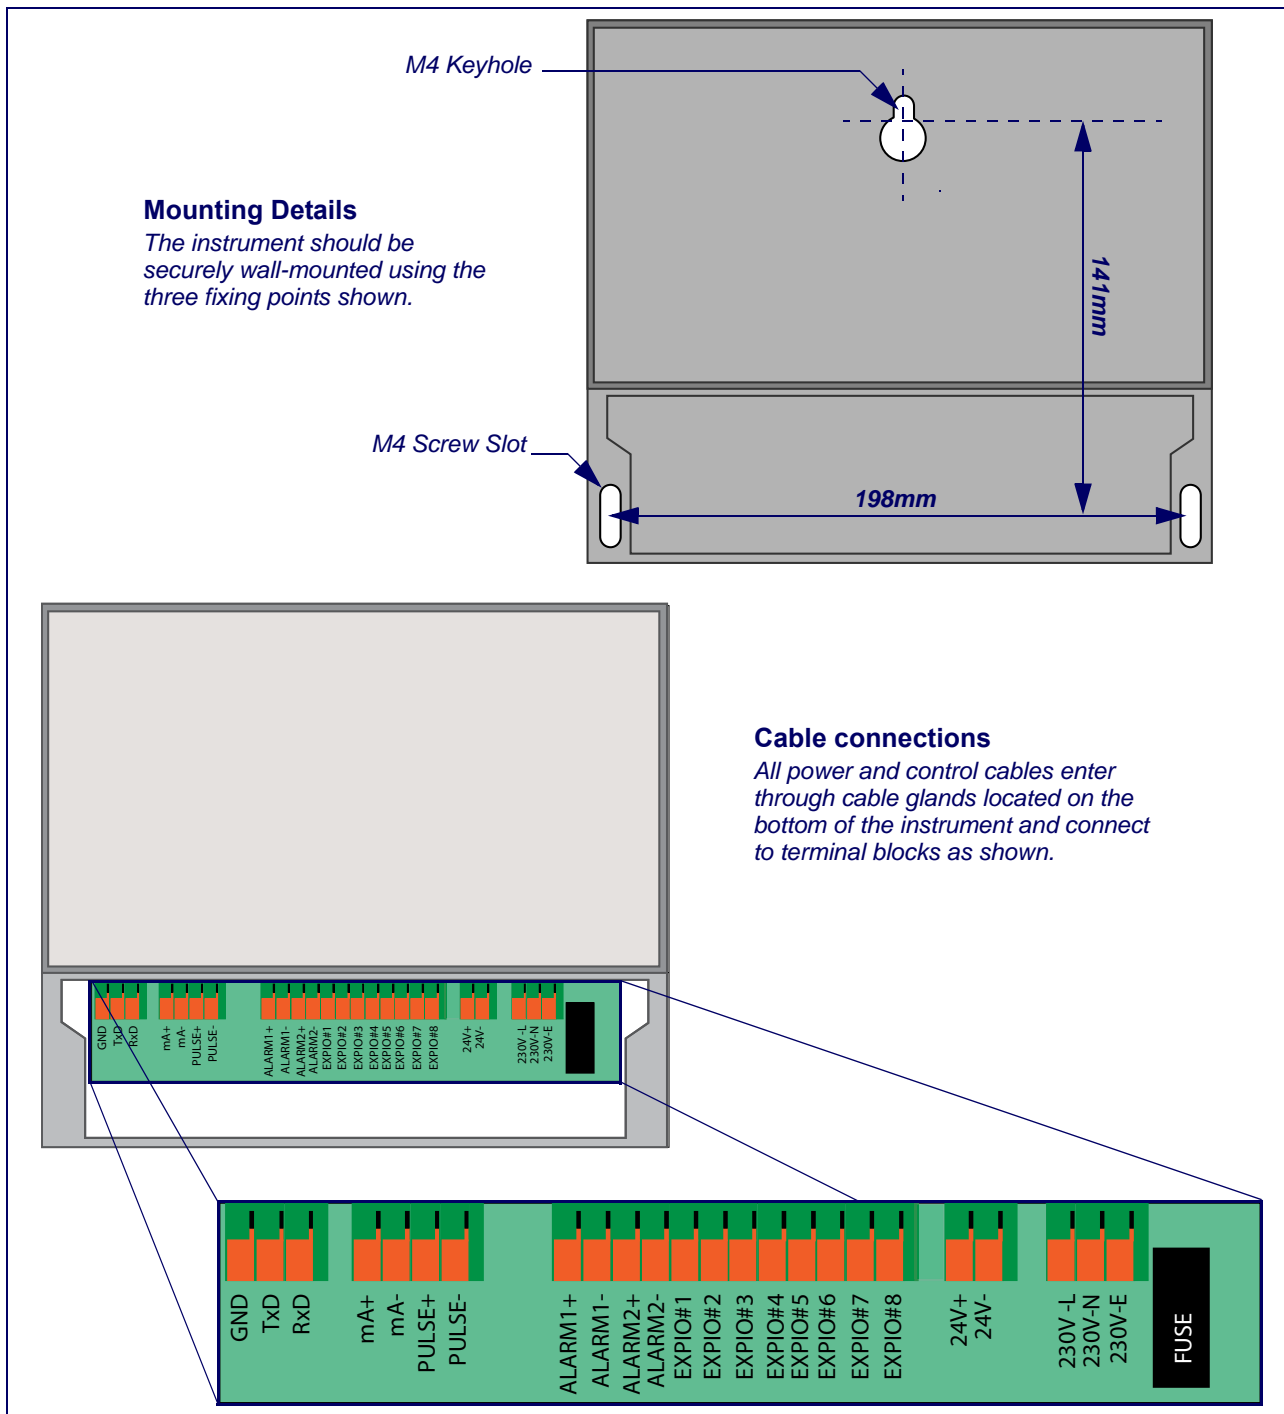

Figure 2.1 U3000/U4000 Mounting and connection details
3. Cut the wires to length, strip back the insulation by approximately 10mm and connect them into the required terminals as described above and identified in Figure 2.1.
2. Cut the wires to length, strip back the insulation by approximately 10mm and connected to them into the correct power supply terminals identified in Figure 2.1.